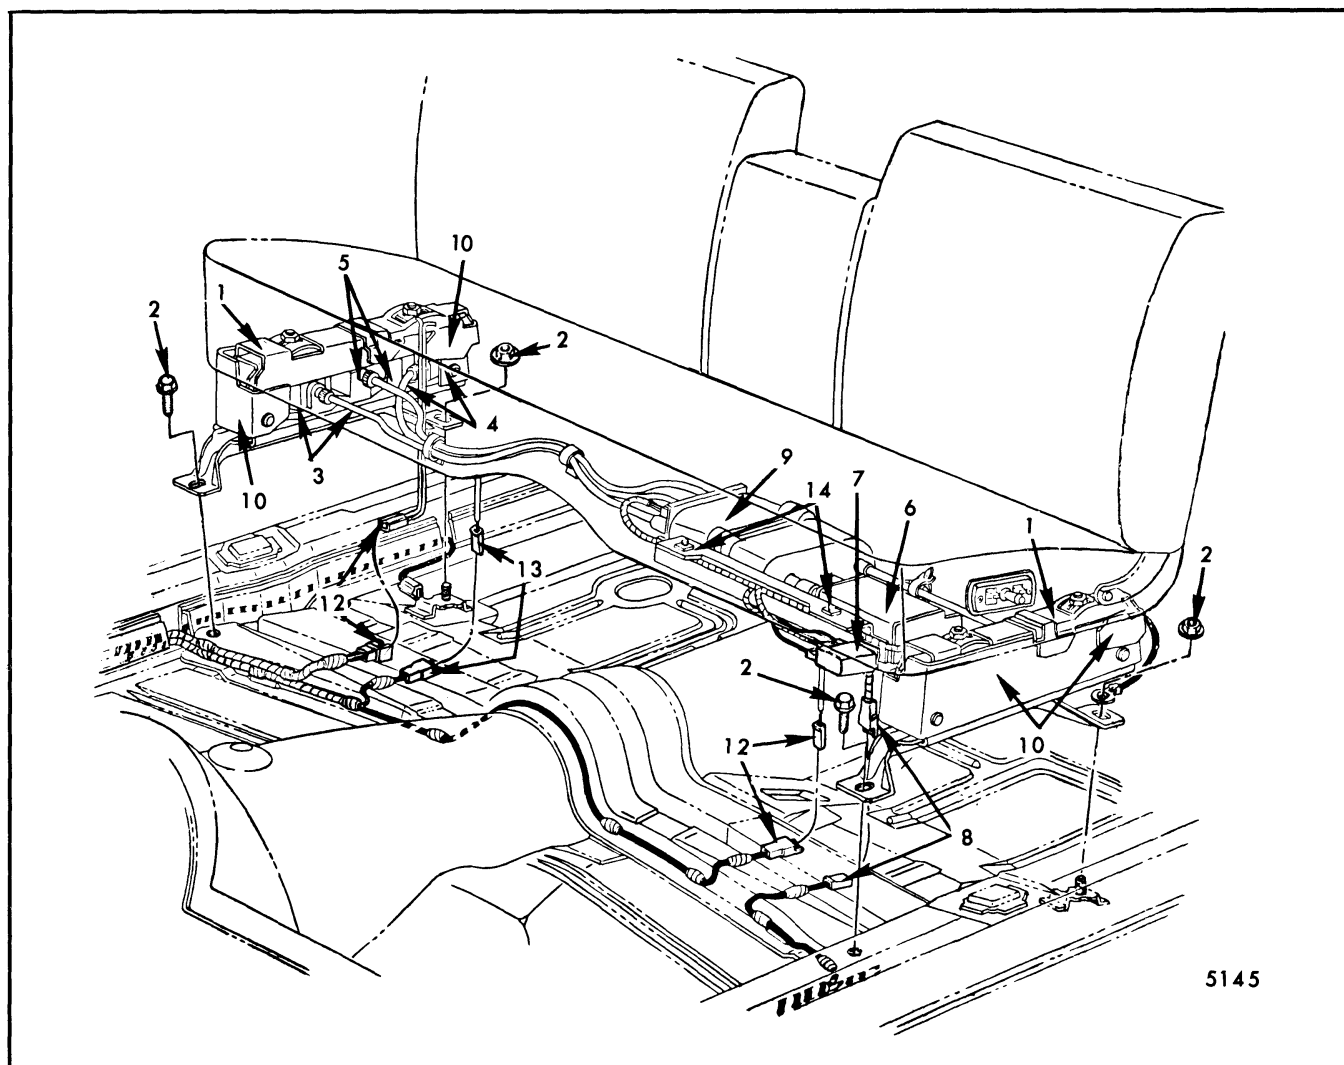

Fig. 9-12-Power Six-Way Full Width Seat ("A" Body Shown - "B, C and E" Bodies Typical)
7. Fig. 9-12-Power Six-Way Full Width Seat ("A" Body Shown - "B, C and E" Bodies Typical)